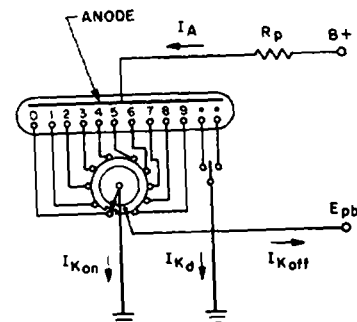

Figure 4. TEST CIRCUIT
Ionization Voltage (Note 1, Fig. 4)	+170 Vdc max
Typical Operating Conditions (Notes 1, 2 & 7, Figures 4, 5 & 6)
Anode Current (Figure 4)	3.4 ma typ
Test Conditions (Figures 4, 5 and 6)
Test Limits (Figures 4, 5 and 6)
- This NIXIE tube can be used in 4 modes of operation (Figure 4)